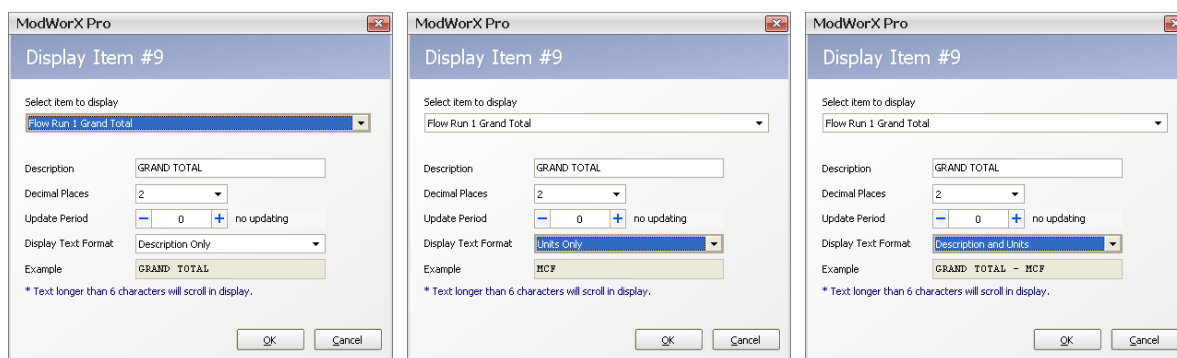

Figure 3.19
6. Select the way you want the parameter to be identified in the lower half of the LCD. The Example field in the following screen captures shows the various description and unit options available (Figure 3.19). The options are: